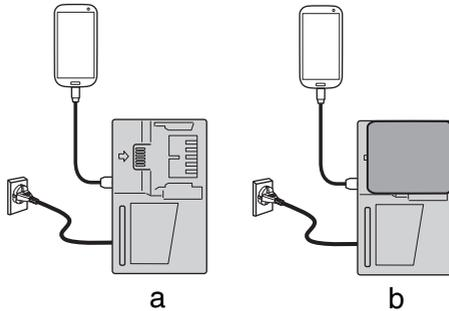

Fig. 29
- Charging a USB device from a electrical outlet (Fig. 29-a).
- Charging a USB device and battery from a electrical outlet.(Fig. 29-b)